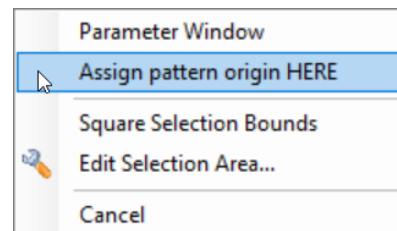
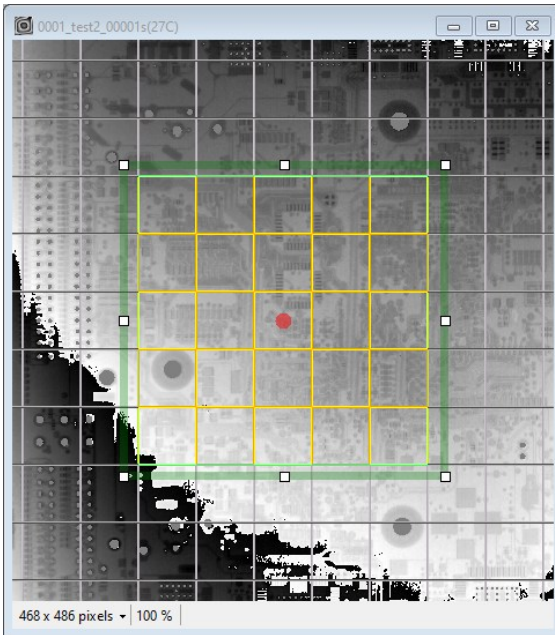
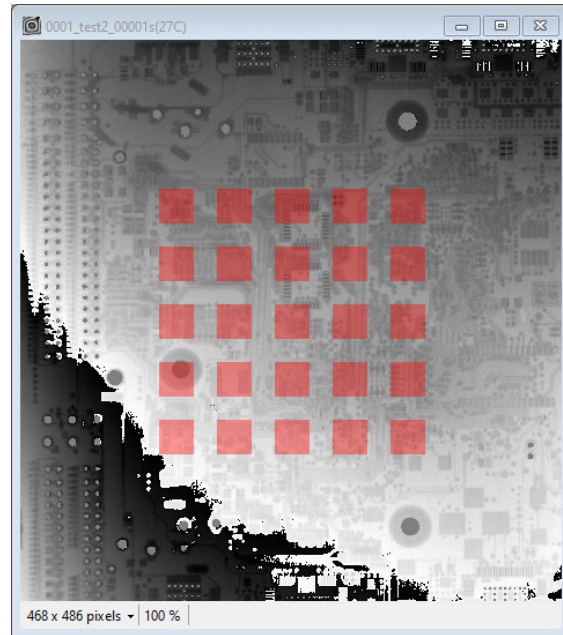

Figure 3.13 Array Context Menu
Figure 3.14 Mask Array Green Bounding Box
Figure 3.15 Added Mask Array
4. The array pattern origin can be changed graphically by right clicking at the desired point on the phase image and selecting **Assign pattern origin HERE** (**Figure 3.13**).
5. To save the mask regions, use the green array bounding box to select the specific regions to be saved. The bounding box can be edited via the Array Context Menu to square its dimensions or edit its position and size (**Figure 3.13**). Note that only regions whose whole areas are enclosed by the green bounding box will be saved, as seen in **Figure 3.14** and **Figure 3.15**. Click on **Add Regions** to add the selected regions. The program will lock these regions so that they cannot be edited. Interaction with the created array can occur just as with a normal mask (see **Section 3.1.1**).